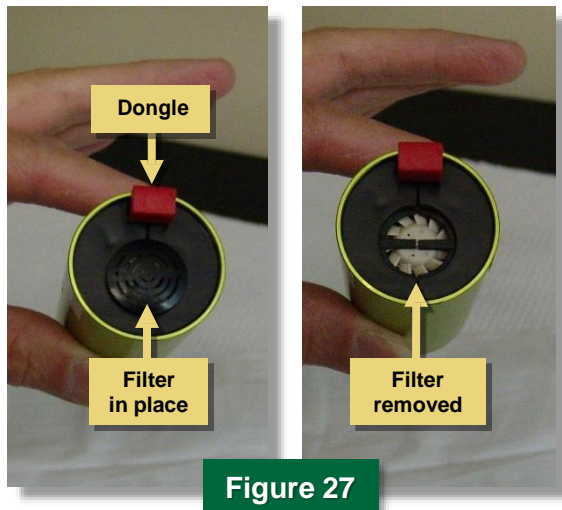

Figure 27
5. Insert the red dongle provided with the CSAM into the CairClip as shown in Figure 27. The dongle prevents the small fan inside the device from turning.